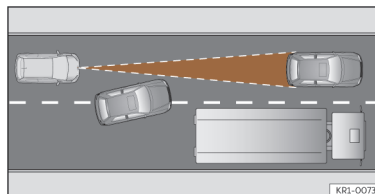

Fig. 122 Vehicle changing lanes.
- Vehicles that move into your lane, a short distance from your vehicle >>> **Fig. 122.**